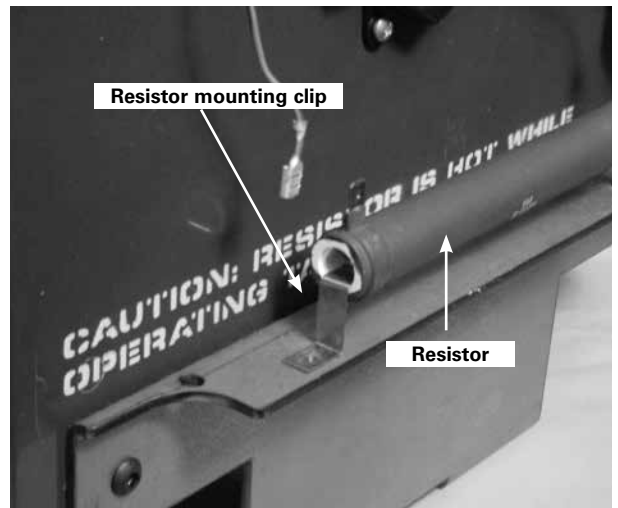

Figure 6. Installing the resistor clip
6. Press the loose mounting clip into the open end of the resistor. See Figure 6.